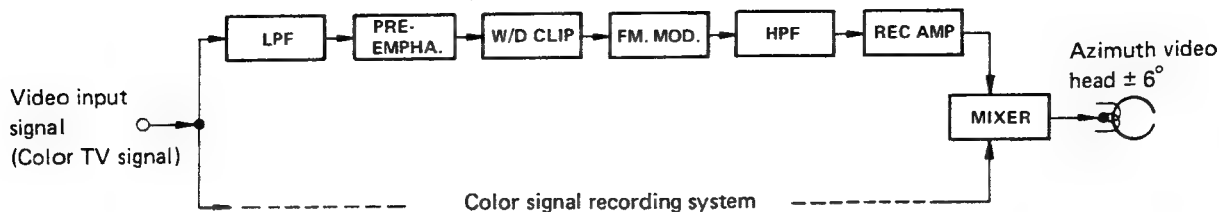

Fig. 1-3 Luminance signal recording system
Frequency modulation (FM) is used for the luminance signal recording system. A simplified block diagram of the system is shown in Fig. 1-3.